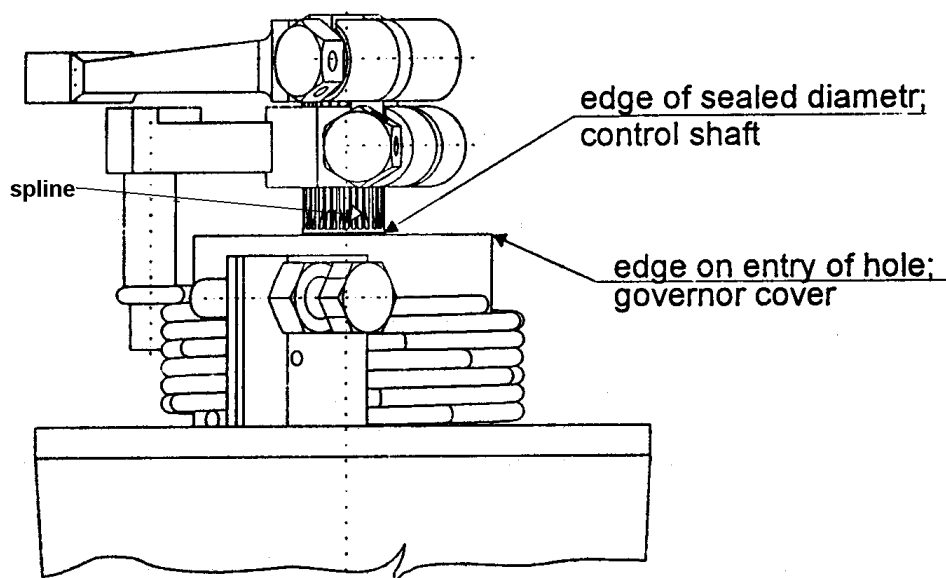
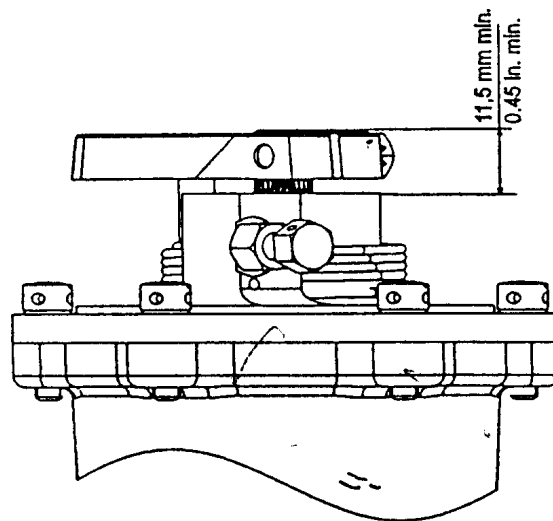

Fig. 5
Fig. 5b
5.6.2 Adjusting maximal propeller RPM (see Fig. 5, 5a, 5b)
Check position of control shaft with control lever at the max. RPM stop (see Fig. 5, 5a, 5b)
Assure that the splines are not beyond the governor housing (former style housing see Fig. 5), otherwise the o-ring will be damaged. This will result in an oil leakage. On the new style housing the minimum dimension as shown in Fig. 5b must be given, otherwise oil leakage will result, too.
a) Former style housing: see Fig. 5